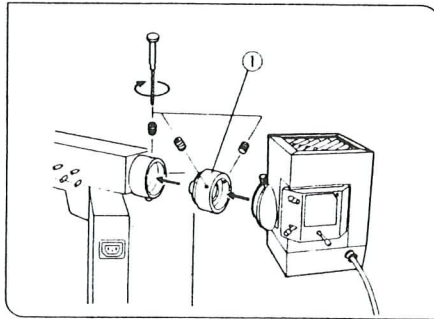

Fig. 12
When brighter illumination is required, use the optional U-UCV ① conversion lens. To install the conversion lens, insert it between the vertical illuminator and the lamp housing and fasten it with the two clamping screws. (Fig. 12)